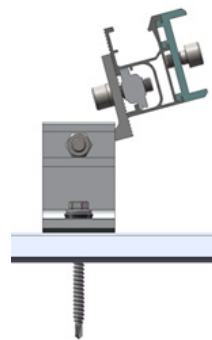

Figure 13
5.2.2 After confirming the position of Rail, fasten the Front and Rear Leg, as shown in Figure 13, 14 and 15.